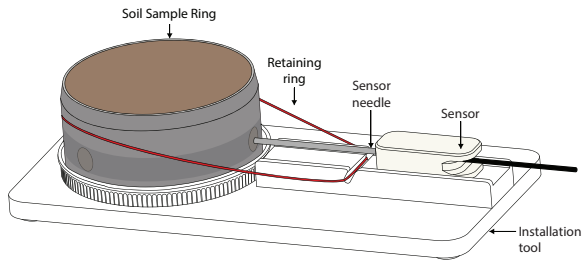

Figure 19 Sensor on installation tool
- Insert the sensor needle all the way into the sample material (Figure 19).
5. Place a retaining ring around the sample ring and into the notch of the installation tool (Figure 19).
6. Place the sensor on the installation tool guide rail (Figure 19).
8. Secure the sensor in place by positioning the retaining ring in the lower notch of the sensor hull (Figure 19).